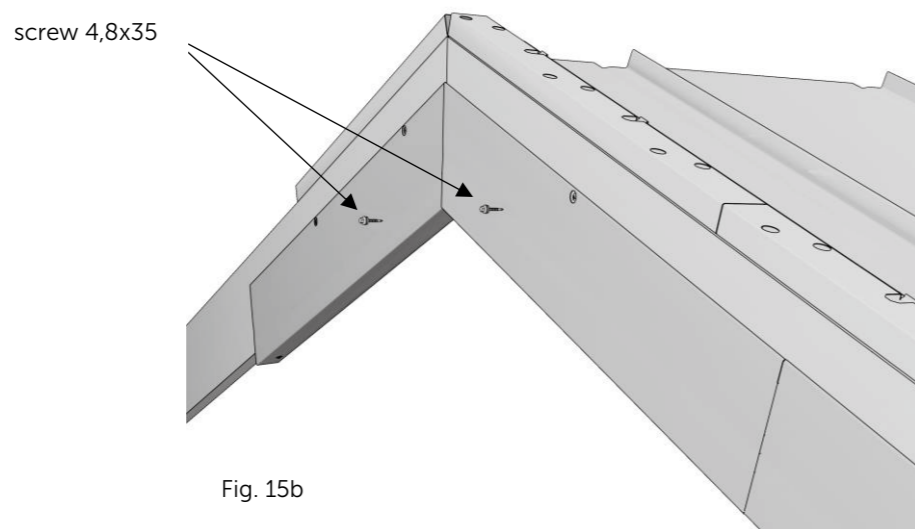

Fig. 15b
- If the last lower barge flashing is cut, screw it on with an additional 4.8x35 screw (Fig. 15b).